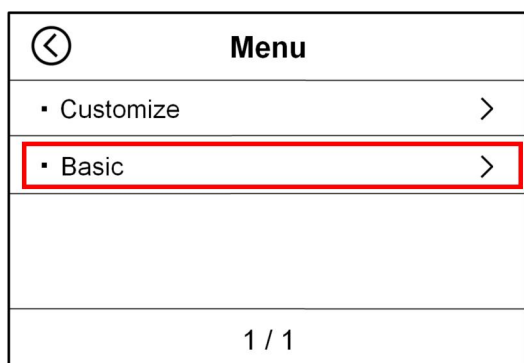
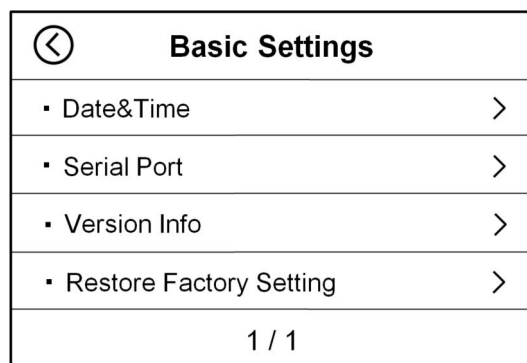

Figure 39
Figure 60
1) Press the **“⚙️”** key to enter the main interface of **MENU**, as shown in Figure 39 below, Press **“Basic”** to enter into Basic Settings, as Figure 60.